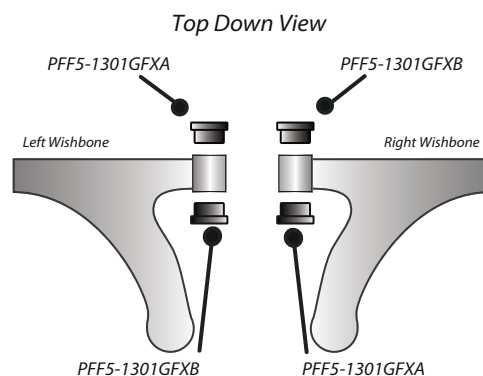

Figure 1: Shell locations
3. Fit the aluminium shells into the correct positions (Figure 1), using the locating pins to align the bushes and ensuring the etched arrow points towards the ball joint on the wishbone.